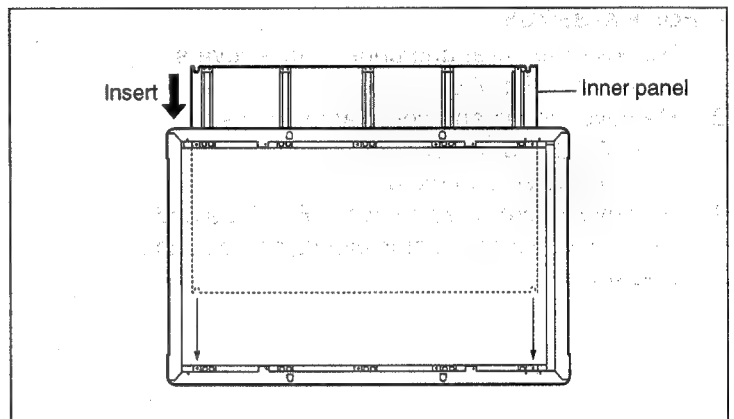

Fig. 7-27
- 8) Insert the inner panel as shown in Fig. 7-27.